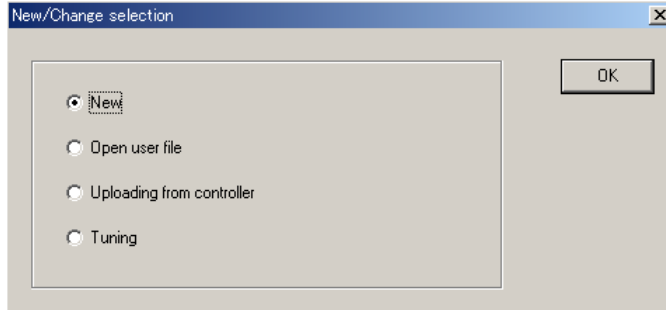
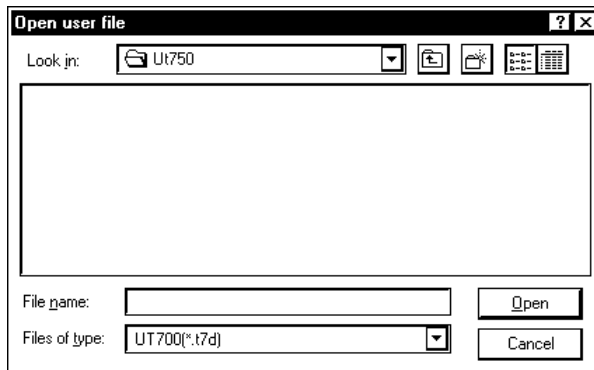
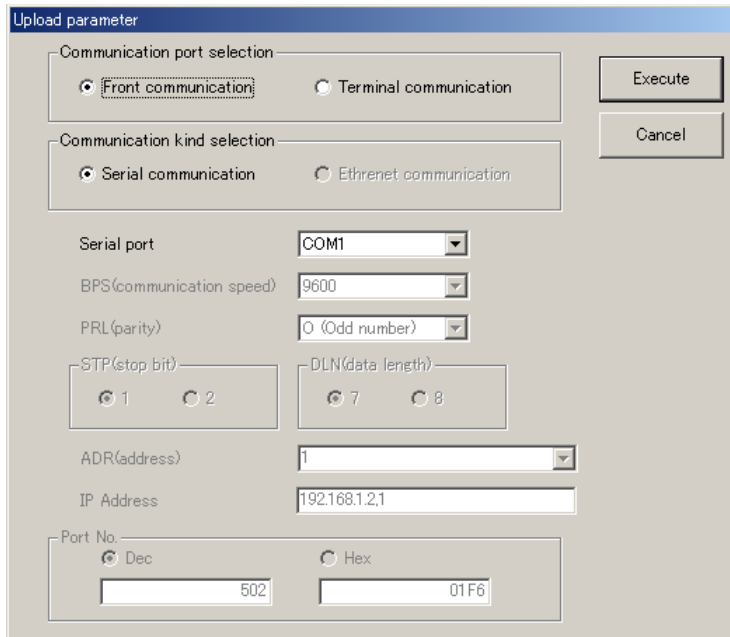
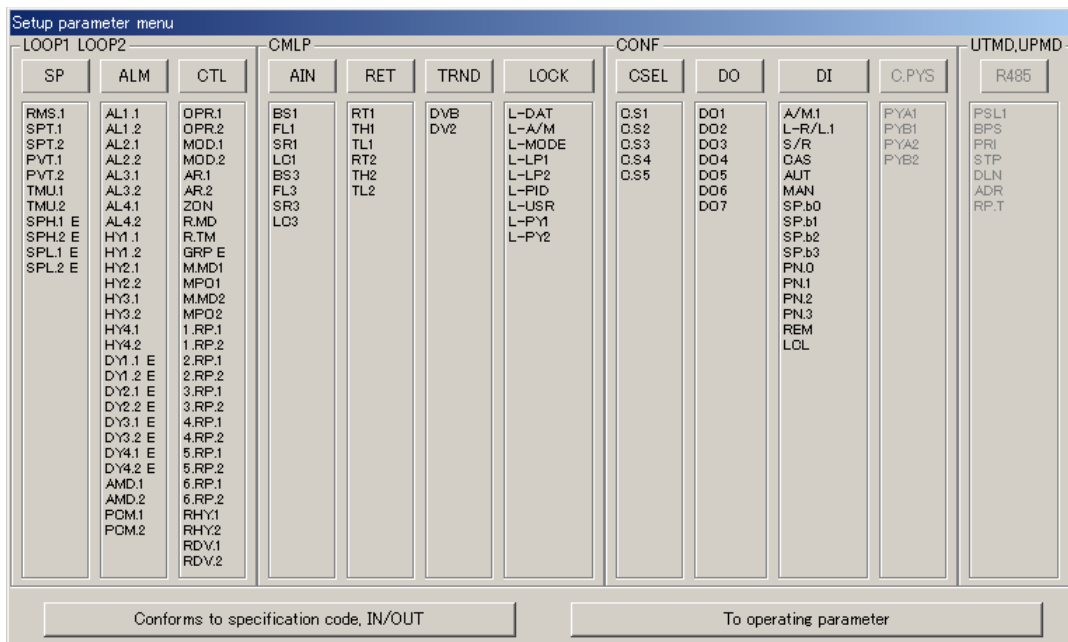

Figure 4.2.1 New/Change Selection Dialog Box
Figure 4.2.7 Open User File Dialog Box (Example of UT750)
Figure 4.2.8 Upload Parameter Dialog Box
Figure 4.3.2 Setup Parameter Menu Dialog Box (Example of UT551)
After you select the controller model, the New/Change Selection dialog box appears (Figure 4.2.1).
- (12) The Setup Parameter Menu dialog box (Figure 4.3.2) opens. (Go on to section 4.3.2.)
After you click **Open user file** in the New/Change Selection dialog box (Figure 4.2.1), the Open User File dialog box (Figure 4.2.7) appears.
- (1) On the menu bar, click **File** then choose **Open**. The Open User File dialog box (Figure 4.2.7) opens.
- (2) Click in the **Look in** box.
- (3) From the list thus appearing, locate the folder in which the desired parameter setting file resides and select it.
- (4) The files contained in the folder you selected are listed in the box beneath. Click to select the parameter setting file, and click **Open**. When LL100 has successfully finished reading the parameter settings from the file, a dialog box displaying the "Uploading from file have finished." message appears.
- (5) Click **OK**. The Setup Parameter Menu dialog box (Figure 4.3.2) then appears. (Go on to section 4.3.2.)
Clicking **Uploading from controller** in the New/Change Selection dialog box (Figure 4.2.1), opens the Upload Parameter dialog box (Figure 4.2.8).
- (1) On the menu bar, click **Communication**, and then choose **Upload from controller**. The Upload Parameter dialog box (Figure 4.2.8) opens.
- (2) Click **Front communication** (this means to use the communication port at the front of the controller).
- (3) From the **Serial port** list, select the communication port of the personal computer from **COM1** to **COM16**.
- (4) Connect the controller to the personal computer, and then click **Execute**.
- (5) When the parameter data has been successfully uploaded, the tool displays a message stating "Parameter data has been uploaded from the controller."
- (6) Click **OK**. The Setup Parameter Menu dialog box (Figure 4.3.2) then appears. (Go on to section 4.3.2.)
- (2) Click **Terminal communication** (this means to use the communication terminals at the rear of the controller).
- (3) Click **Serial communication**.
- (4) From the **Serial port** list, select the communication port of the personal computer from **COM1** to **COM16**.
- (5) Set the RS485 communication conditions:
- (6) Connect the controller to the personal computer, and then click **Execute**.
- (7) When the parameter data has been successfully uploaded, the tool displays a message stating "Parameter data has been uploaded from the controller."
- (8) Click **OK**. The Setup Parameter Menu dialog box (Figure 4.3.2) appears. (Go on to section 4.3.2.)
- (3) Click **Ethernet communication**.
- (4) Set the target controller's IP address and RS485 communication address in the **IP Address** text box.
- (5) Set the target controller's port number in the **Port No.** text box. The port number can be set in decimal or hexadecimal.